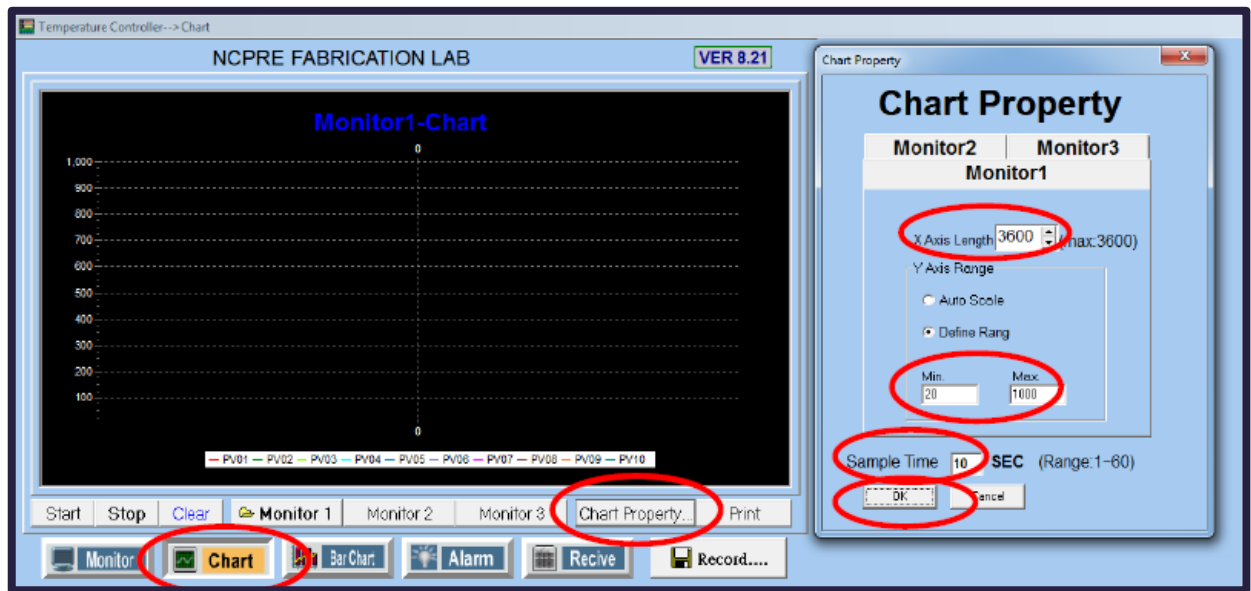

Figure. 24
13. Once the recipe/program starts, it can be recorded in the text file and also can be viewed in the chart. Click on the “Chart” and then on the “Chart Property” to set the Axes (Figure. 24).